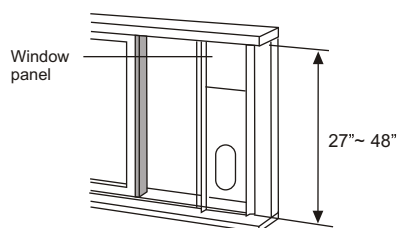

Fig.15
2. Attach the window slider kit to the window stool. Adjust the length of the window slider kit according to the width of window, shorten the adjustable window kit if the width of window is less than 27 inches. Open the window sash and place the window slider kit on the window stool. See Fig.15.